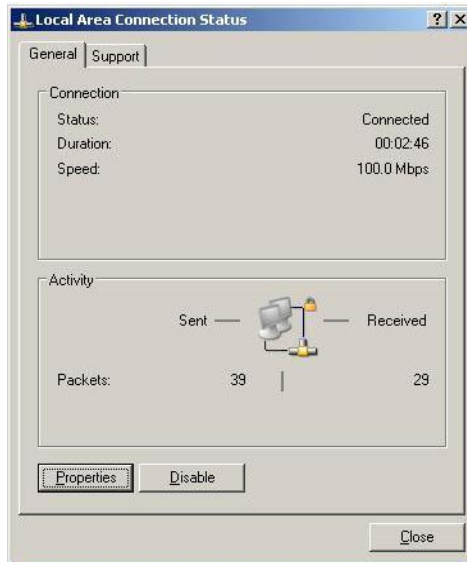

Figure 1
- ▶ To select the function Internet Protocol click (figure 1) on sub item "Properties"